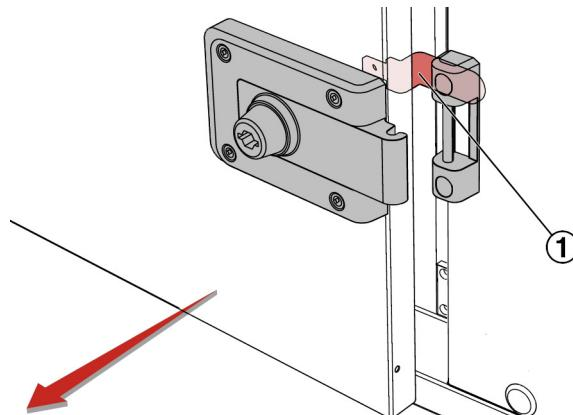

Fig. 51: Safety catch
3. ▶ Carefully open the inspection access door until it is caught by the safety catch (Fig. 51 /1).